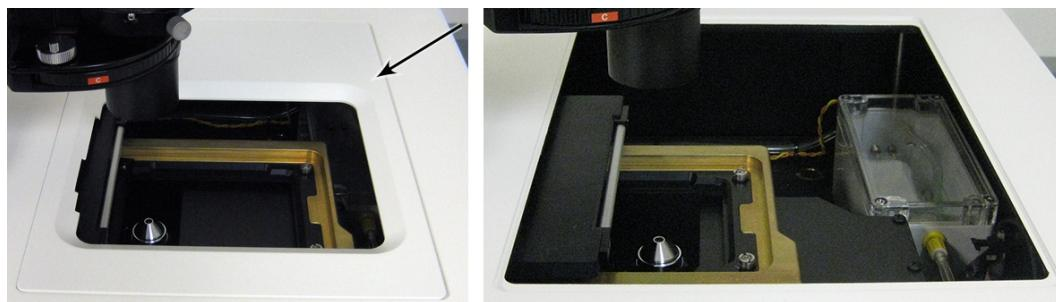

Figure 7-10: Access panel around the top door on and off
3. Remove the top access panel surrounding the top door (Figure 7-10), and for more access.
11. Replace the top access panel surrounding the top door and . See Figure 7-10.